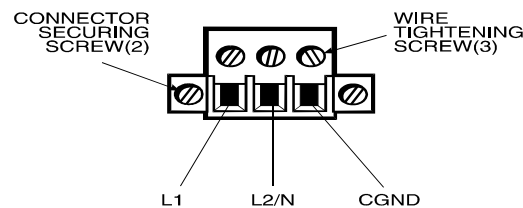

Figure 3-21. AC Power Connector
4. Insert the three wire ends of the power cable into the three holes of the block plug. Insert the Protective Earth GND ground, L1, and L2/N wires into the corresponding holes, as shown in Figure 3-21. Be sure that no bare wires are exposed.